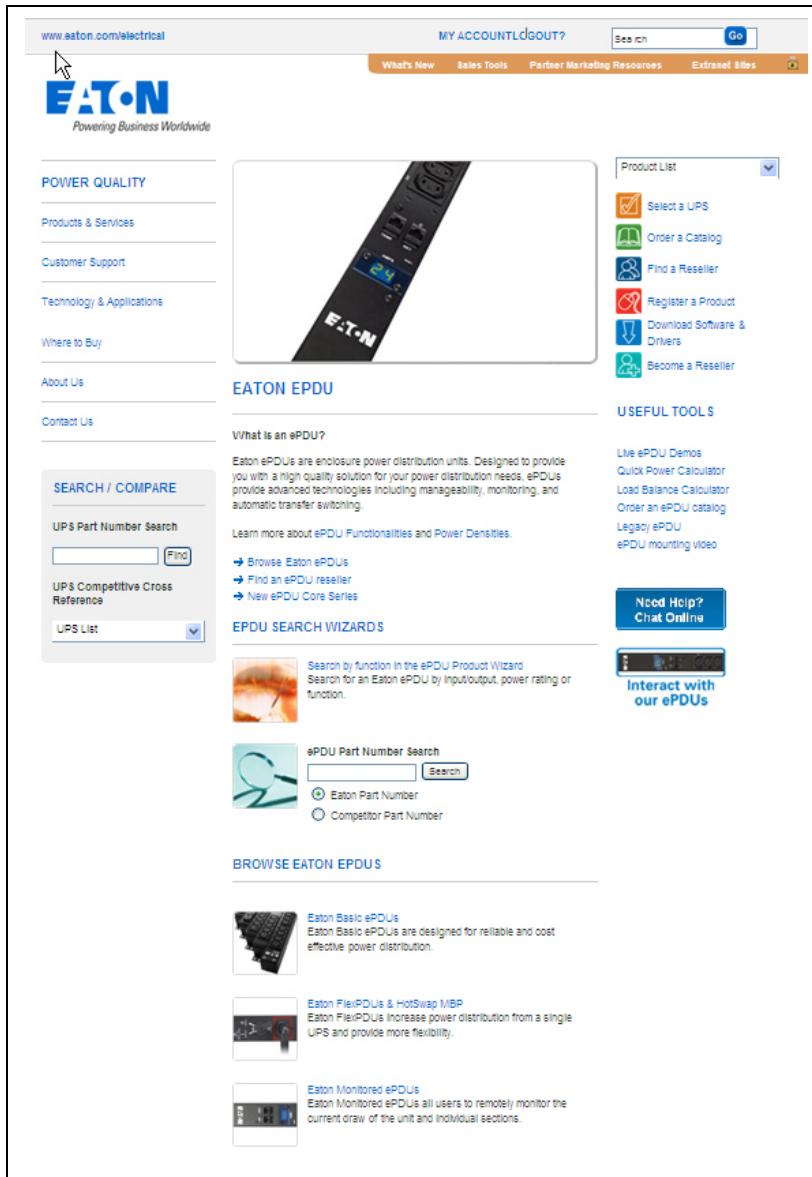

Figure 9. EATON EPDU Main Page
3. The EATON ePDU Main page displays (see Figure 9).
1. Select www.eaton.com/ePDU. The EATON EPDU Main page displays (see Figure 9).